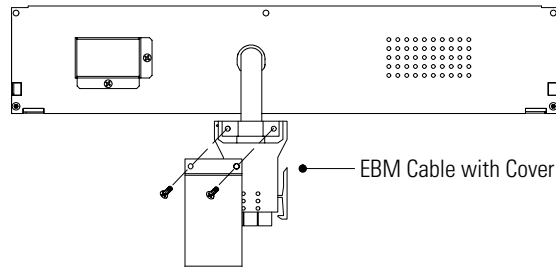

Figure 9. EBM Cable Cover (230V EBMs Only)
5. Remove the cover from the EBM cable as shown in Figure 9.